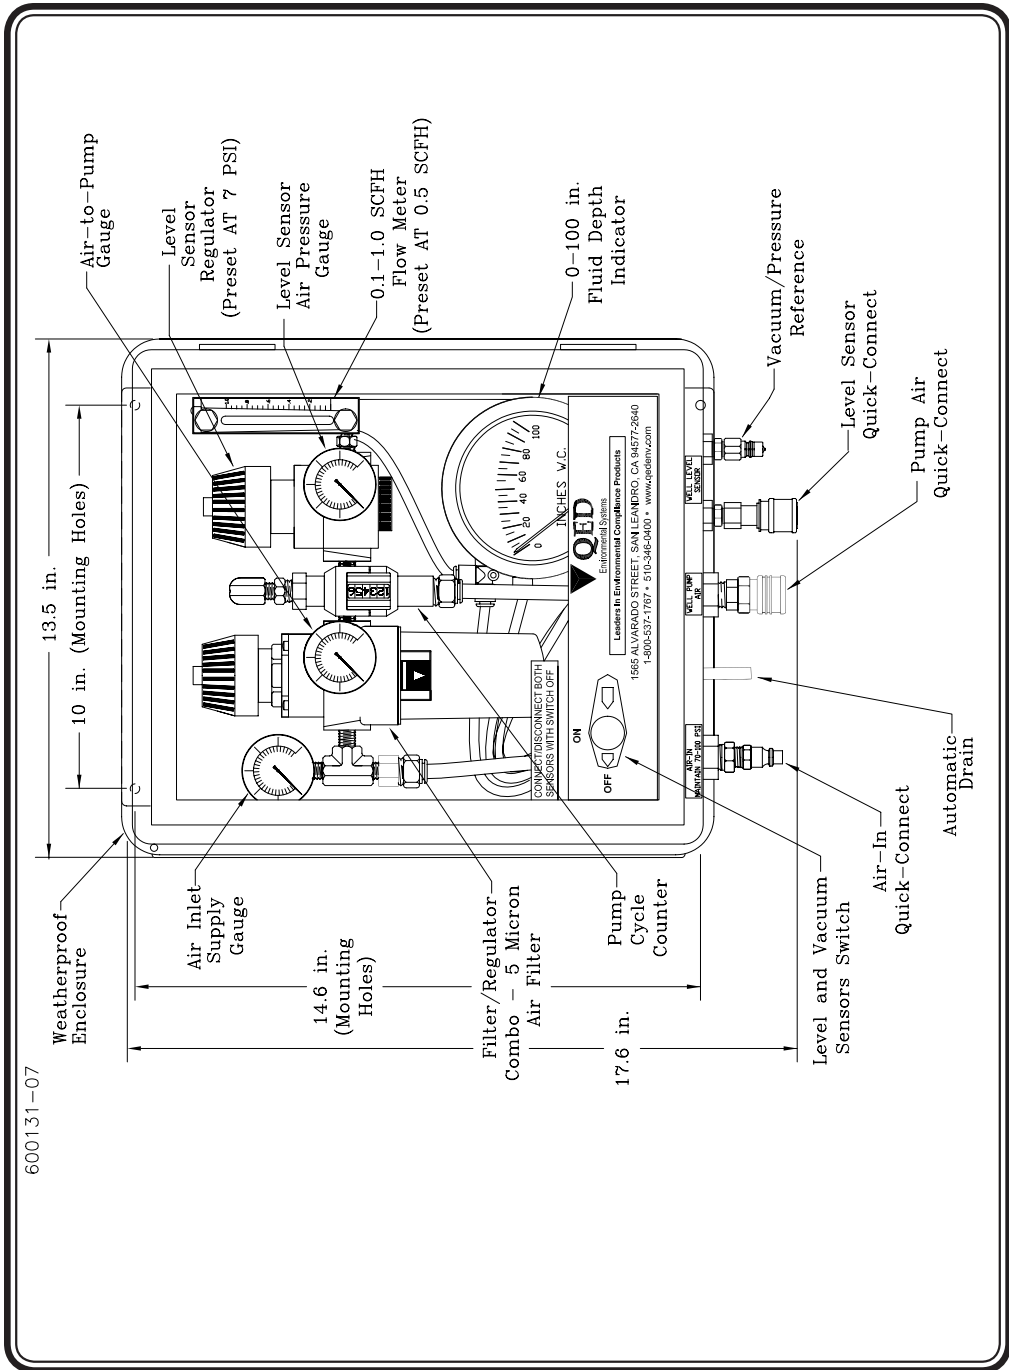

Figure 2 - APDM with with Quick-Connects for Level and Vacuum Switch
See Figure 2
- The air inlet fittings on all data modules are located on the bottom left hand side of the box whine looking at the box window. **See Figure 2.**
- The air output or pump air is located on the bottom right hand side of the data module without level sensor. **See Figure 2.**
- The data modules with level sensor have the air output or pump air located in the center on the bottom on the box. **See Figure 2.**